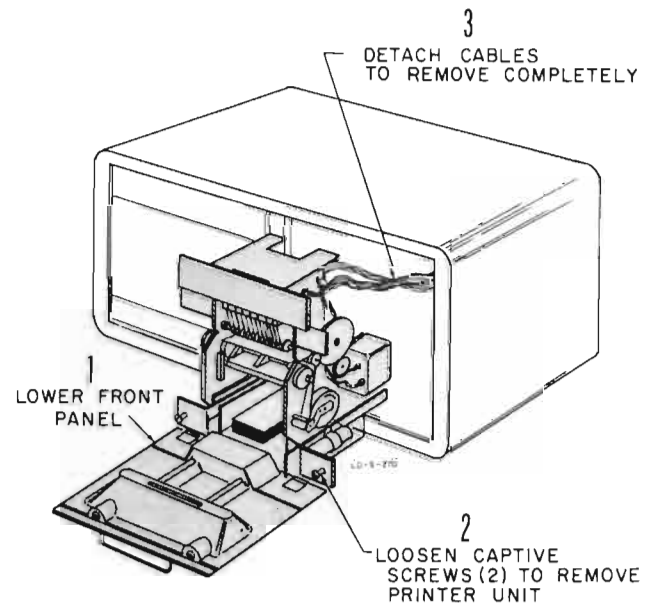

Figure 4-1. Printer Mechanism Removal
- 4) To completely remove the mechanism, (a) detach the connector mounting plate at the rear of the main recorder chassis (six screws), (b) unplug the 8-pin connector near the connector mounting plate, and (c) unplug the connector on the printer mechanism frame. See Figure 4-1.